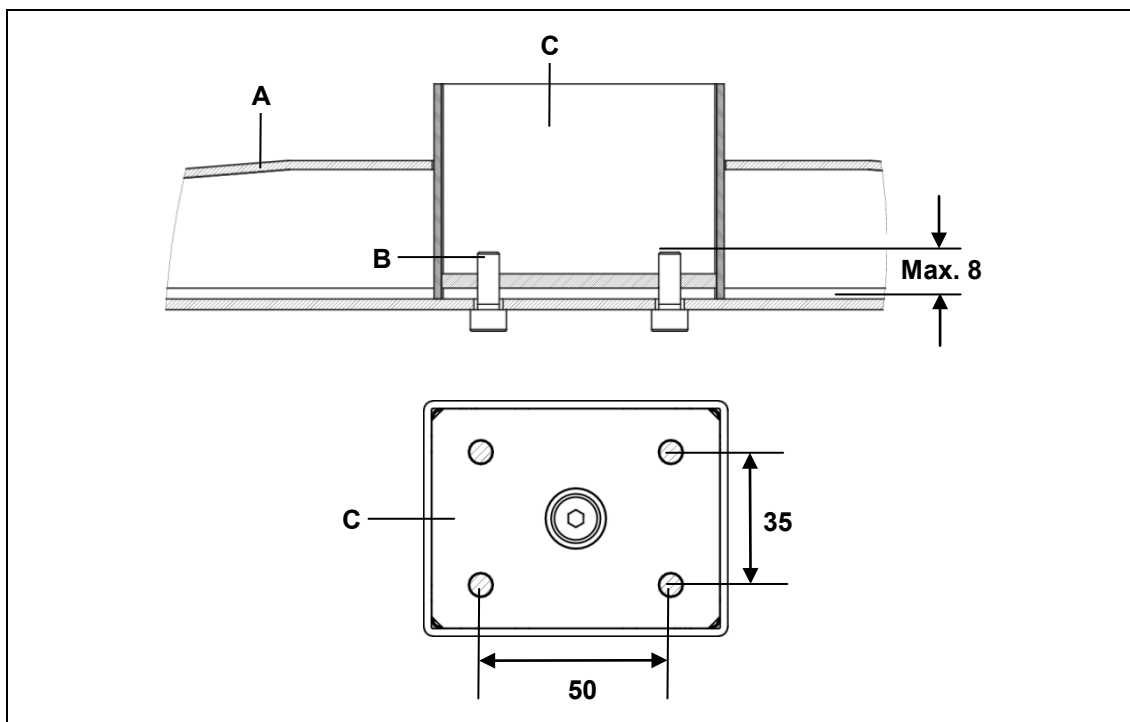
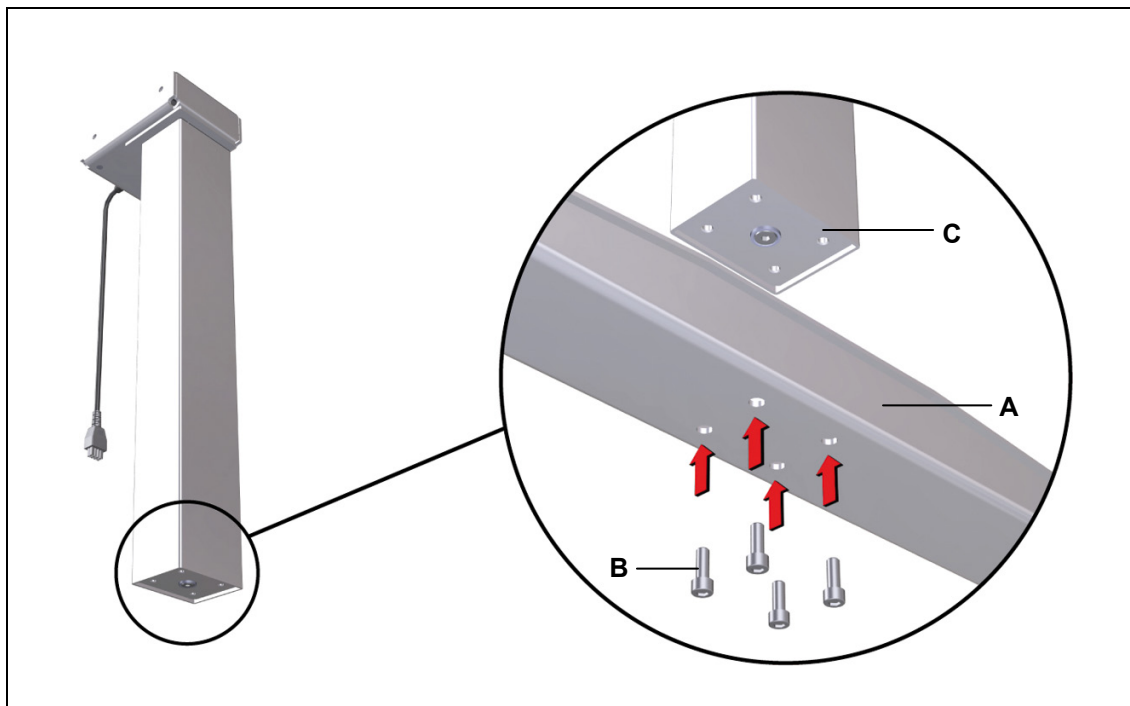

Figure 7 Mounting the table base (for variant A) (in mm)
Figure 8 Example: Mounting the table base
- Use M6 cylinder head screws (with strength grade 8.8), as shown in Figure 7. The tightening torque must not exceed 10 Nm.
- 1 Use four screws to attach the table base to the foot end of the lifting column, as shown in Figure 8 (the maximum tightening torque is 10 Nm). The mounting dimensions are shown in Figure 7.